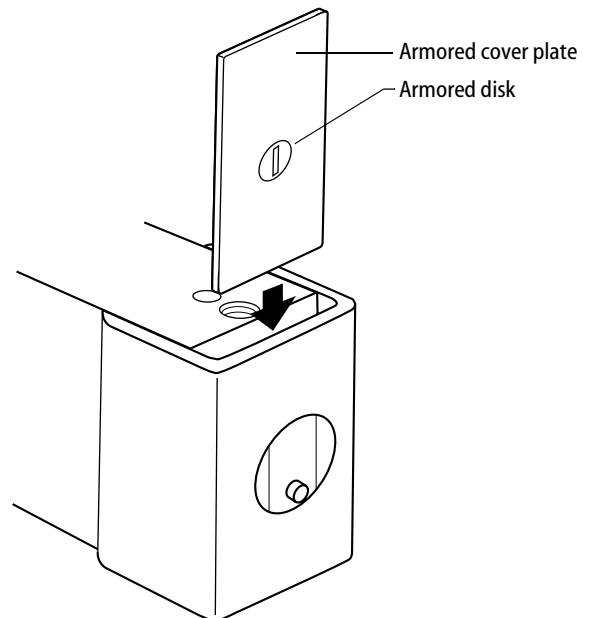

Figure 2 — Inserting the armored cover plate & disk
- 2 Slide the armored cover plate and disc into the slot and behind the dust cover. See Figure 2.